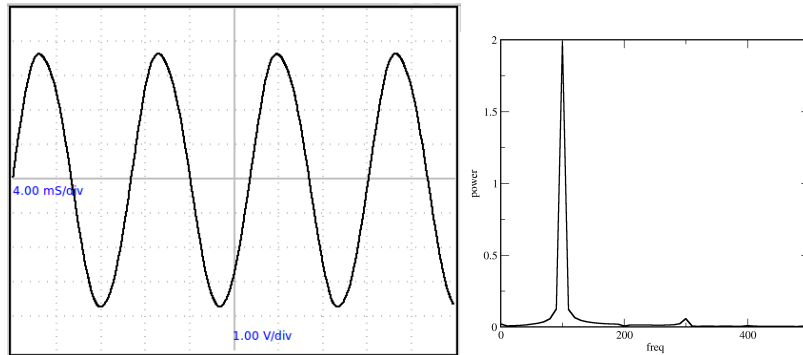

FIGURE 2.20 – (a)Sine wave. (b) Frequency spectrum by Fourier transform.
- The sinewave and it's Fourier transform are shown in figure 2.20.